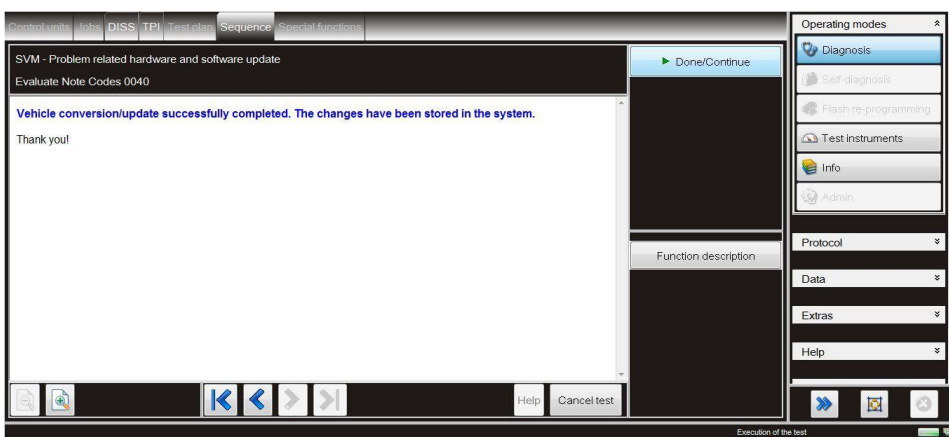

Figure 9
12. Follow all remaining on-screen prompts until at Figure 9